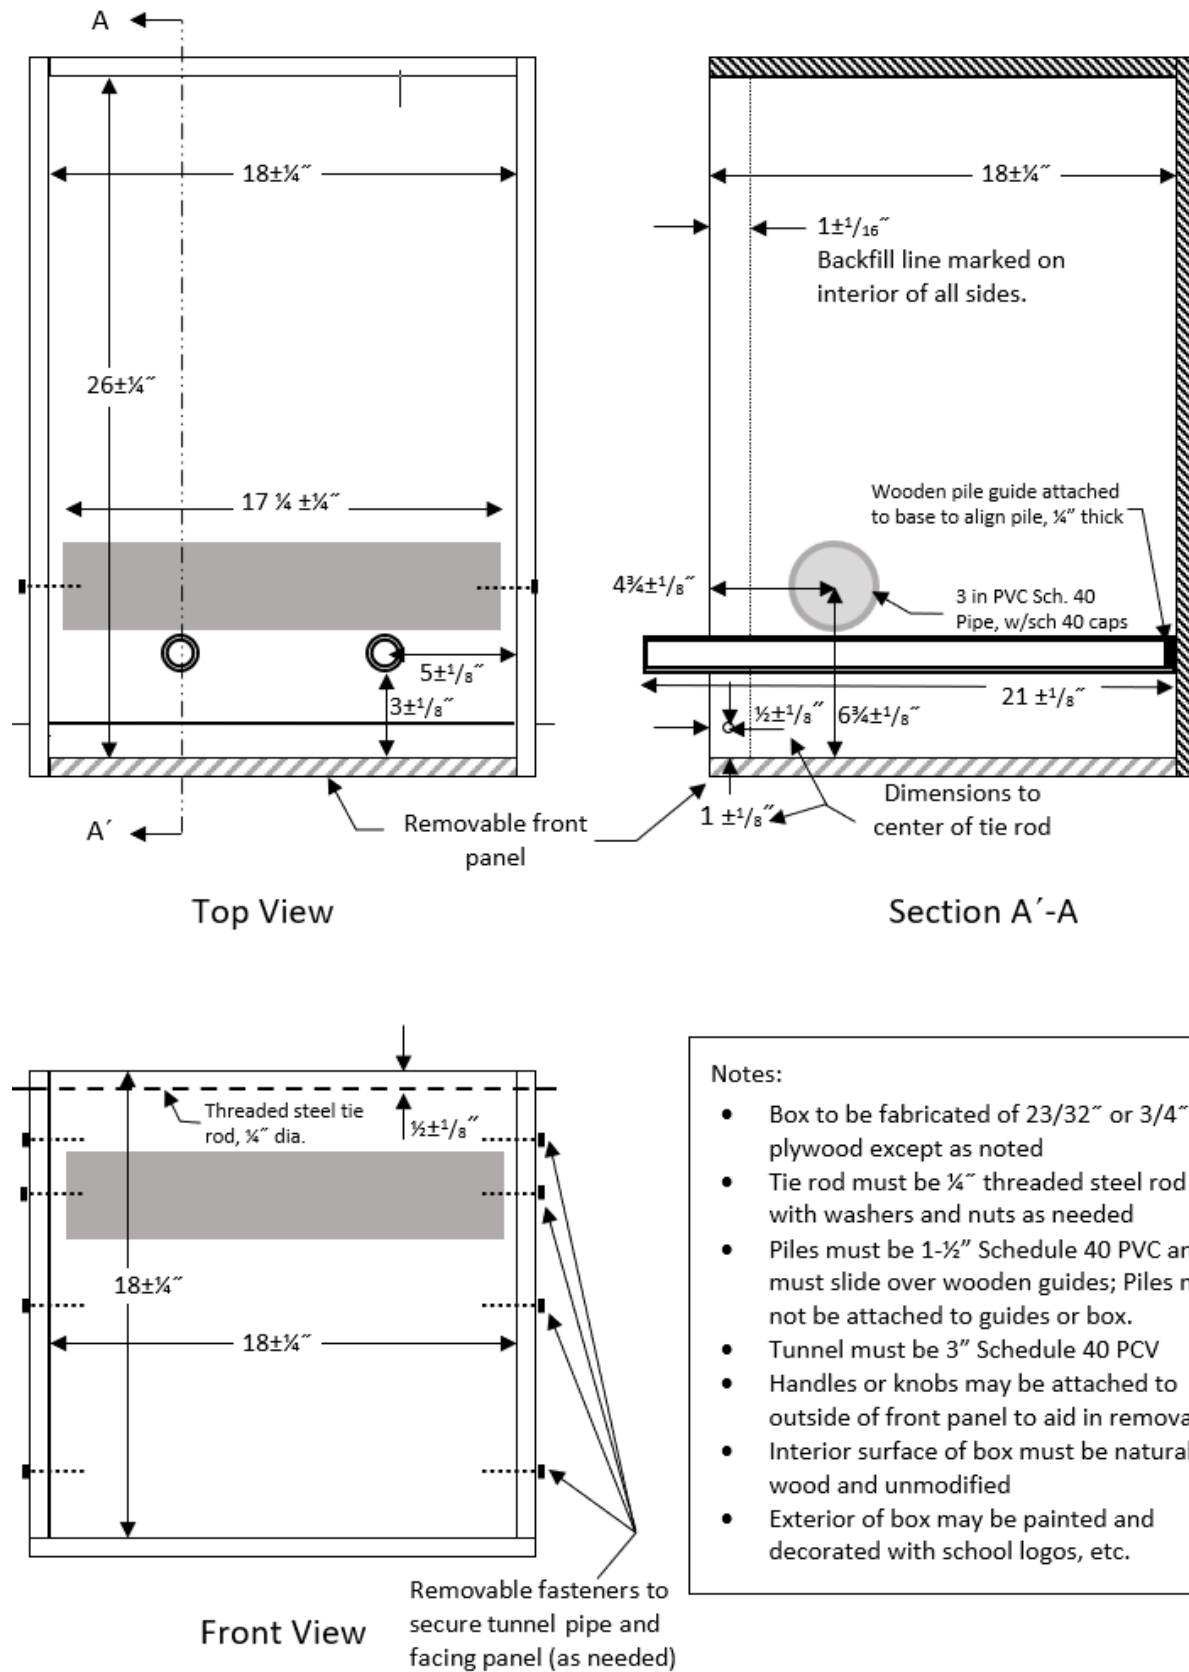
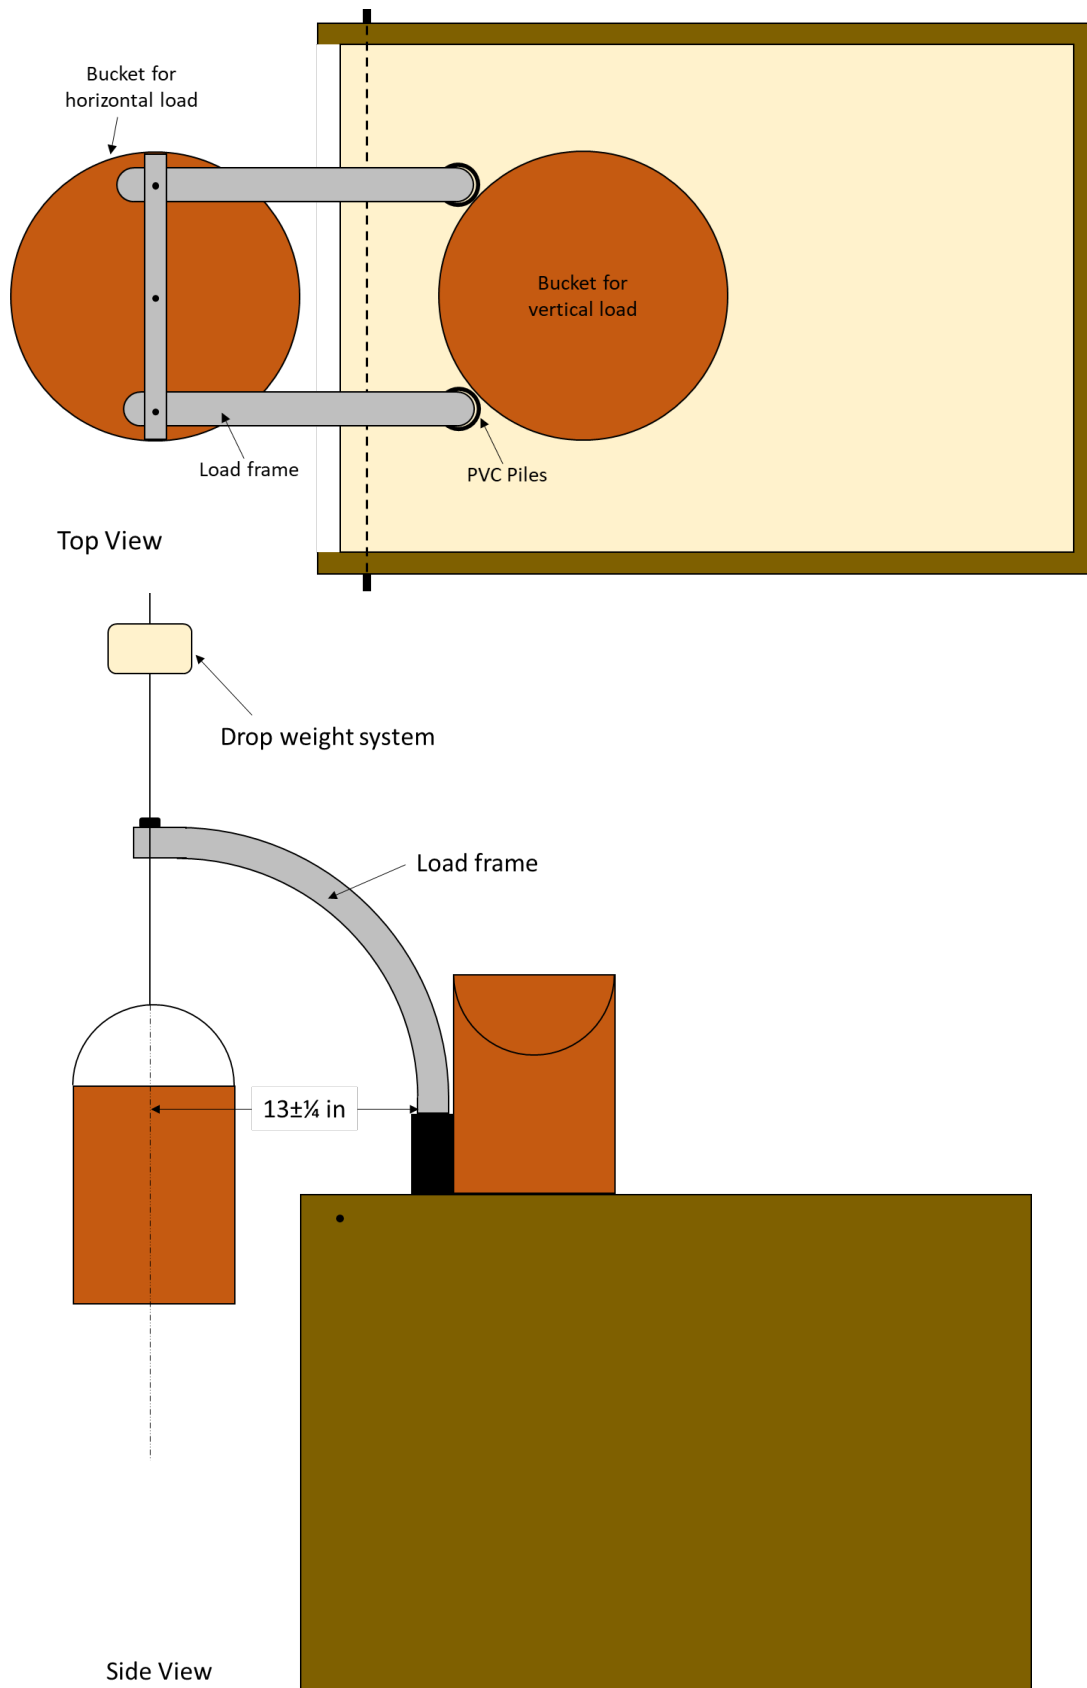
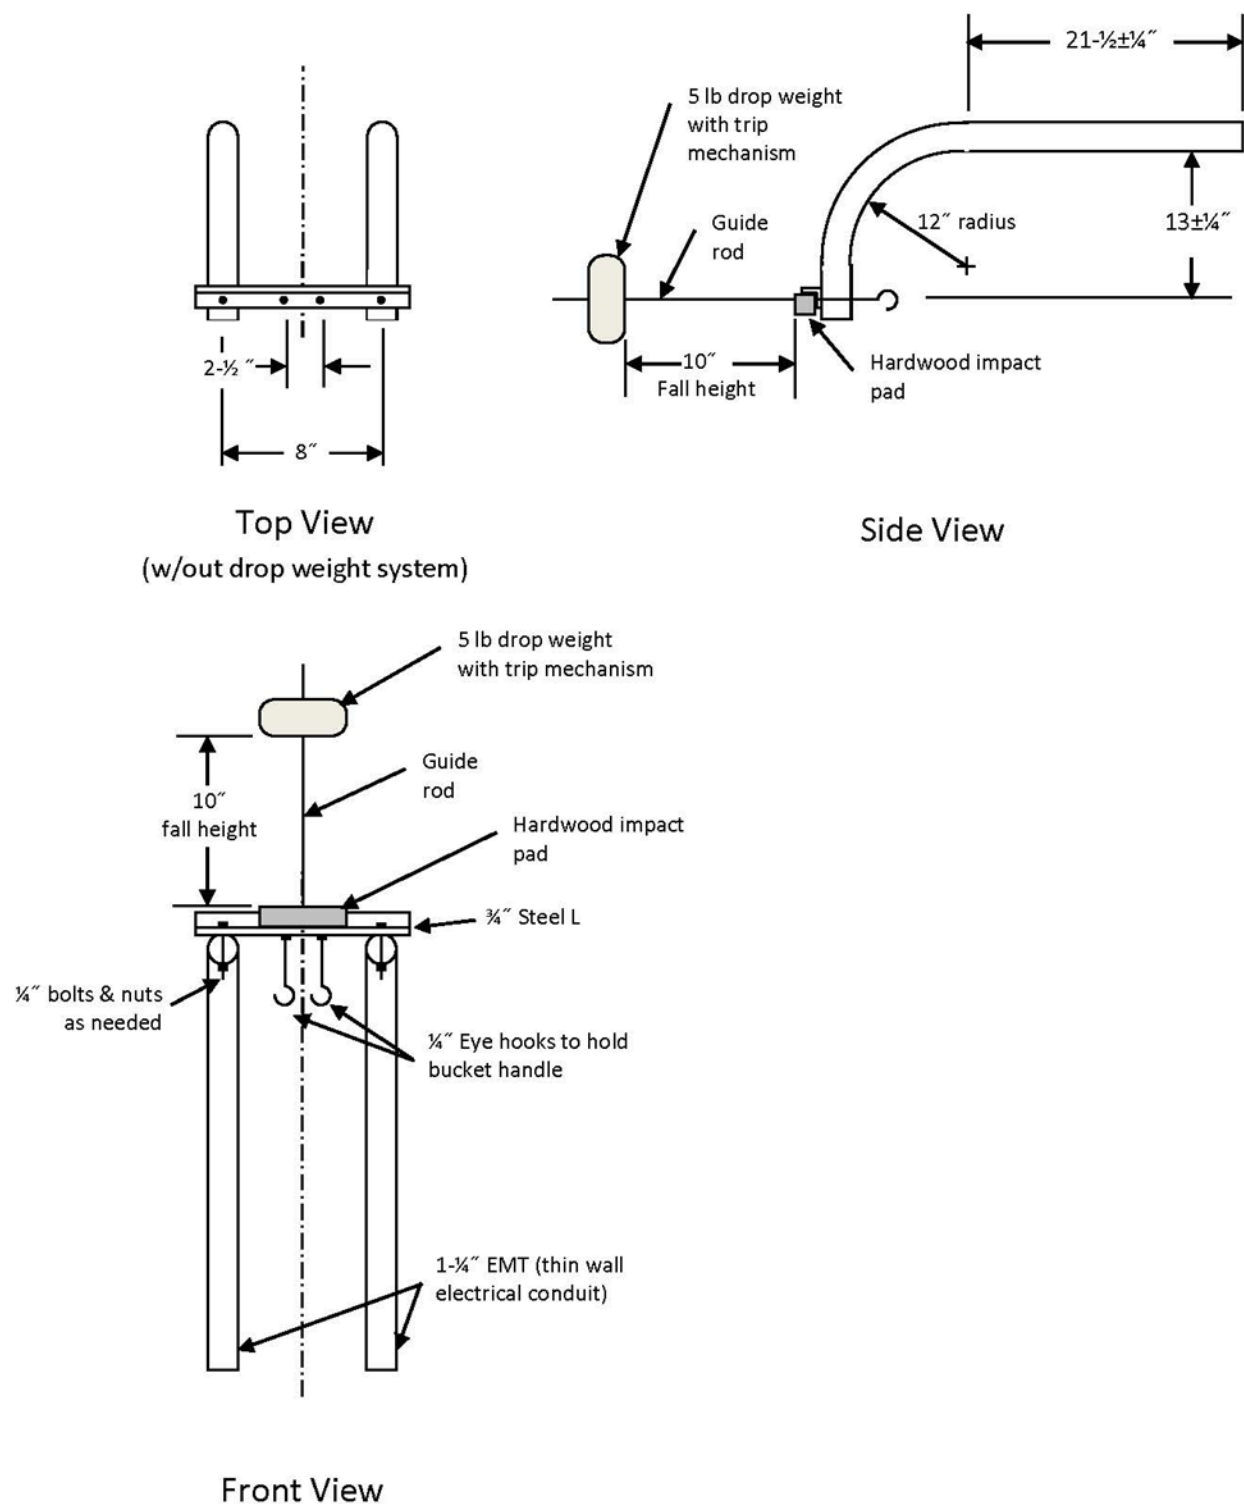

Figure 2: Sandbox dimensions (not to scale)
Figure 5: Load Placement (not to scale)
Figure 6: Dimensions of Horizontal Load Frame (not to scale)
6. **Sandbox** – The MSE wall will be constructed within an apparatus hereafter referred to as a sandbox. Each team shall bring their own sandbox to the competition. Painting and the addition of school or sponsor logos and other decorations to the exterior of the sandbox is highly encouraged. The sandbox shall be made up of a bottom and four vertical sides with no top. The front panel will be removable as shown in Figure 2. The removable box panel will be in place during wall construction and removed after construction to expose the MSE wall. The sandbox will also include a horizontal PVC pipe used to represent a tunnel, and two PVC piles used to apply the horizontal load. Each team shall bring their own PVC tunnel to the competition. Dimensions of the sandbox, the PVC tunnel, and the PVC piles are shown in Figures 2 through 6. The sandbox shall meet the following requirements:
- c) Have a removable front as shown in Figure 2. Panels must be flush with the base of the box and held in place with threaded inserts, screws, hinges or other easily removable fasteners.
- i) All dimensions of the sandbox shall be as shown in Figure 2.
7. **Piles** –Two vertical piles will be used to apply the horizontal load to the backfill behind the wall. Each team will provide their own piles. Piles will be fabricated out of 1-½ inch schedule 40 PVC pipe. See Figure 2 for the pile locations and length requirements.
- c) **Construction Stage** – After the wall is assembled and checked by the judges, the judges will instruct the team to start construction. During this stage, the team fills the box with sand so that the sand fill line (see Figure 2) is covered and the backfill is level, and an empty 5 gallon vertical surcharge bucket is placed on top of the sand centered behind the PVC piles, as shown in Figure 5. The facing material must be in direct contact with the inside of the sandbox at all times during this stage. The tie rod, PVC tunnel and PVC piles may be removed from the box at the start of this stage, but they must be in place before any sand is placed in the box. Temporary templates or guides may be used during this stage so long as they are removed before the end of the stage.
- d) **Loading Stage** – Details of the load placement are shown in Figure 5. This stage occurs in three steps: 1) removal of tunnel restraints and front panel, 2) placement of 50 lb vertical surcharge load, and 3) placement of the 20 lb static horizontal surcharge load in an empty 5 gallon bucket on the loading frame followed by a single application of the dynamic horizontal load. During each step, the wall will be checked for the following three criteria: 1) excessive deformation (any portion of the wall extending outside the imaginary plane extending vertically from base of sandbox), 2) excessive soil leakage (more than 30 cm³ of sand passing out of the sandbox), and 3) catastrophic failure. The team will be penalized for excessive soil loss and excessive deformation, but will be disqualified for a catastrophic failure.
- i. When directed by the judge, the team shall remove the tunnel restraints and the front panel of the sandbox. After the panel and restraints are removed, the judge will wait one (1) minute and then check the three criteria.
- ii. If the wall does not fail catastrophically, the team will then place 50 lbs of sand in the empty 5 gallon bucket on top of the sand. The team will have one (1) minute to place the load. After the load is placed, the judge will wait one (1) minute and then check the three criteria.
- iii. If the wall does not fail catastrophically, the team will place the 5 lb drop weight on top of the load frame, hang an empty 5 gallon bucket on the loading frame, place 20 lbs of sand in the bucket (see Figures 5 and 6), and then trip the drop weight for a single application of the 5 lb weight falling 10 in and impacting the top of the load arm (see Figure 6). The team will have one (1) minute to complete this loading sequence. After the sequence is complete, the judge will wait one (1) minute and then check the three criteria. The horizontal load frame with vertical drop weight will be provided by the competition organizers. Teams should not bring their own load frames to the competition and will not be permitted to use their own.